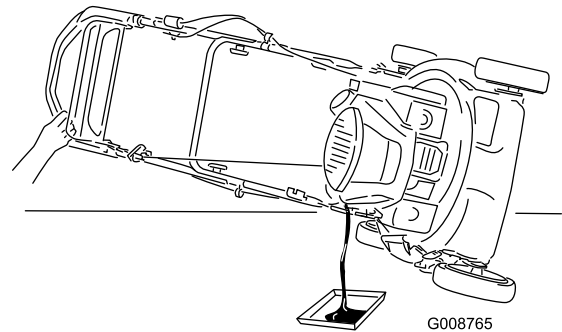

Figure 40
7. Tip the machine onto its side, with the oil-fill tube down, to drain the used oil out through the oil-fill tube into the oil-drain pan (Figure 40).